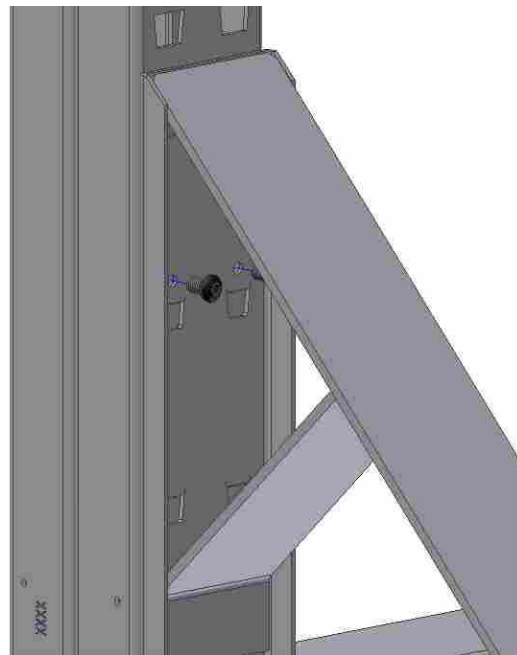

Fig 9
STEP 6 – Join the **joint foot** to the **frame** with **2 M6x10 ISO7380 Allen screws** (Fig. 9)